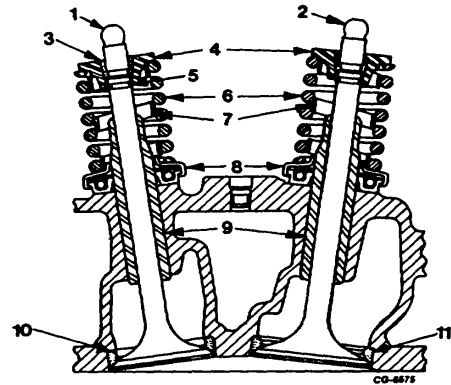

Figure 32. Sectional View of Valve Installation
- b. Release spring compressor and remove spring retainer, valve spring and damper assembly, valve stem seal and Rotocoil assembly (Figure 32).